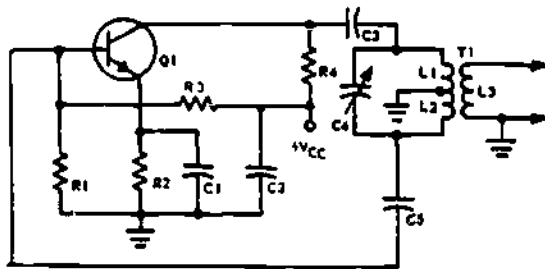

Figure 43-15
14. Refer to figure 43-15. The three purposes of autotransformer T1 are to act as a part of the FDD,
18. Refer to figure 43-15. The components included in the feedback loop of this oscillator are Q1,